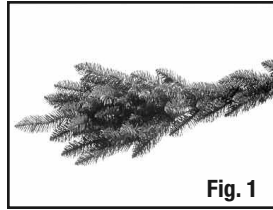
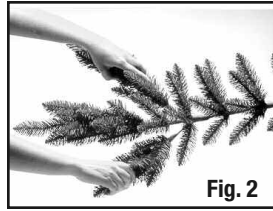

Fig. 1
Fig. 2
2. BRANCH SHAPING. (Branches should be attached to tree pole from the bottom up.) Locate the color-coded branches that match the color code of the bottom bracket on the center pole (Figure 1). Each branch must be shaped to a natural position by spreading out the left and right tips away from the center tip (Figure 2). See Shaping Instructions on page 4.
1. If your tree has a metal stand, unfold it and insert the eye bolts. Remove packing material from ends of poles. Put bottom section pole into tree stand making sure it is seated properly (Figure 1). Tighten eye bolts.
If your tree has a plastic stand, slide legs upward into slots at base of bottom section (Figure 2) and tap lightly with a hammer until secure. **WARNING:** Using excessive force to assemble base may cause breakage.
1. Unfold the tree stand and insert the eye bolts. Remove packing material from ends of poles. Put bottom section pole into tree stand making sure it is seated properly (Figure 1). Tighten eye bolts until bottom section is held securely.
3. The light string extension cords connected to the bottom and middle section poles have colored-coded tags attached at the plug end. Depending on the number of sections to your tree, the light strings plug in as follows: the cords with **PURPLE** tags plug into the receptacle on the tree section below. The cords with a **BLACK** tag are plugged into an electrical outlet (Figure 2).
4. (Figure 2) Connect the male end of the light string cord from the middle section into the female end of the light string cord of the bottom section. Connect the male end of the light string cord from the top section into the female end of the light string cord of the middle section. Note that the male and female connectors are keyed and will only connect in one direction. After connection, twist closed each connector nut securely.
1. Every tree style is shipped from the factory with the tips of each branch compressed to the center (Figure 1).
2. Each branch tip must be shaped to it's proper position to give the tree a natural look. This is done by gently grasping the left and right wing tips and spreading them out away from the center tip (Figure 2).
2. Pull up on the Bulb Lock unlatching the bulb from the bulb socket. Gently pull the bulb straight out (Figure 1).
4. Carefully insert new bulb into socket and push down Bulb Lock until it snaps into place (Figure 2).